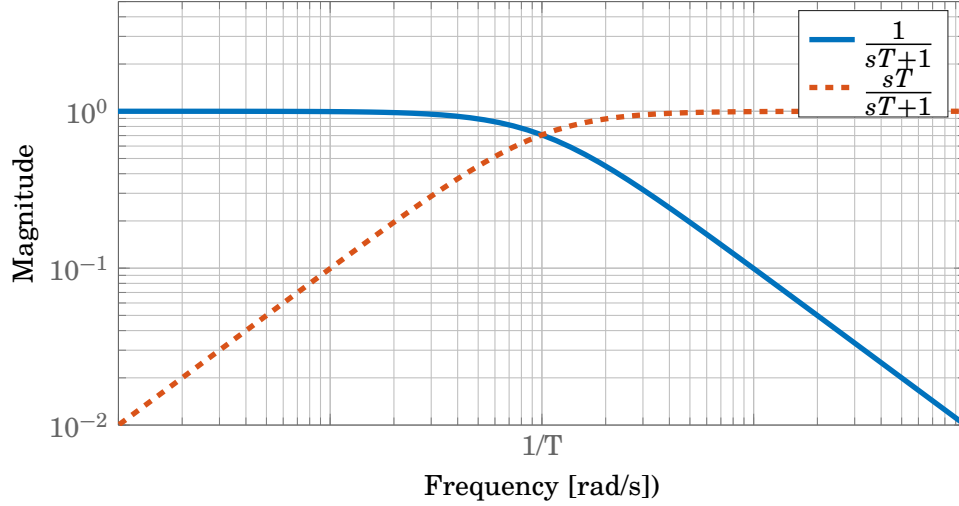

Figure 2 Bode plot of the filters for measurements α_1 (solid) and α_2 (dashed).
- a. A Bode plot of the filters for α_1 and α_2 respectively are shown in Figure 2. We note that the measurement α_1 is low-pass filtered while α_2 is high-pass filtered. This means that high-frequency noise will be filtered away from α_1 while low-frequency noise will be filtered away from α_2 . We should thus pick the accelerometer for α_1 and the gyroscope for α_2 .